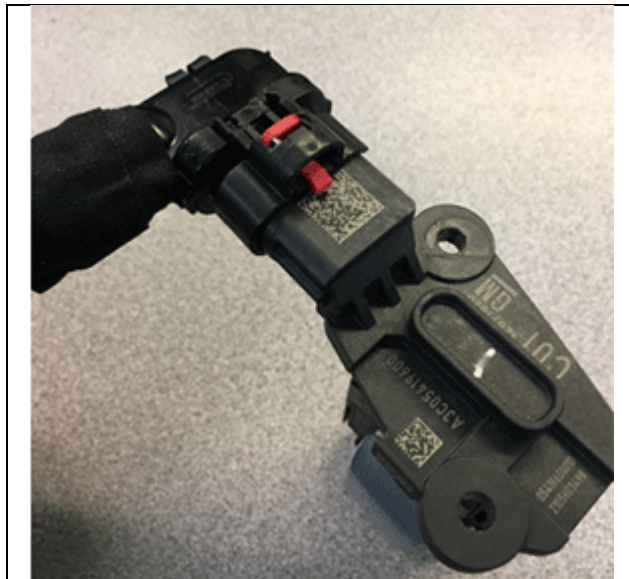

Figure 2
5. Connect the harness to the NEW MAF sensor/IAT sensor prior to inserting it into the air intake duct. See Figure 2.